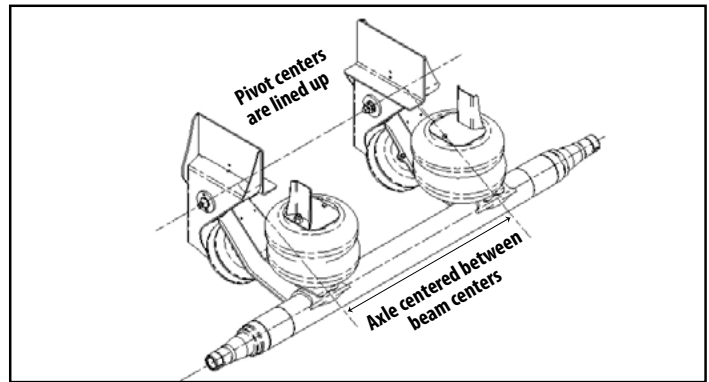

Figure 1.
1. Center the axle assembly on the beams (Figure 1).